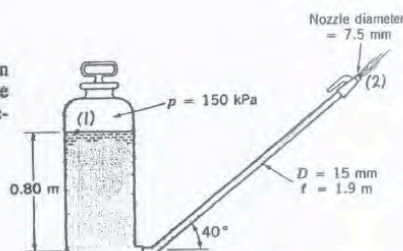

FIGURE P8.93
8.93 Water flows from the nozzle attached to the spray tank shown in Fig. P8.93. Determine the flowrate if the loss coefficient for the nozzle (based on upstream conditions) is 0.75 and the friction factor for the rough hose is 0.11.